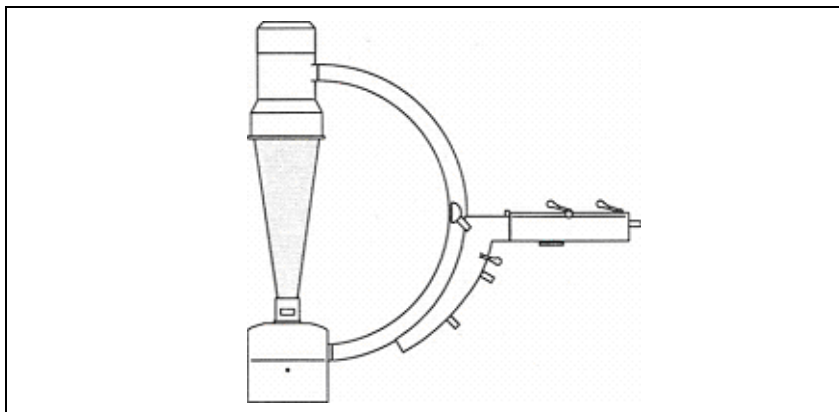

Fig. 7 C-Arm in the basic position
- Place the C-Arm in the Basic position, shown in Fig. 7.